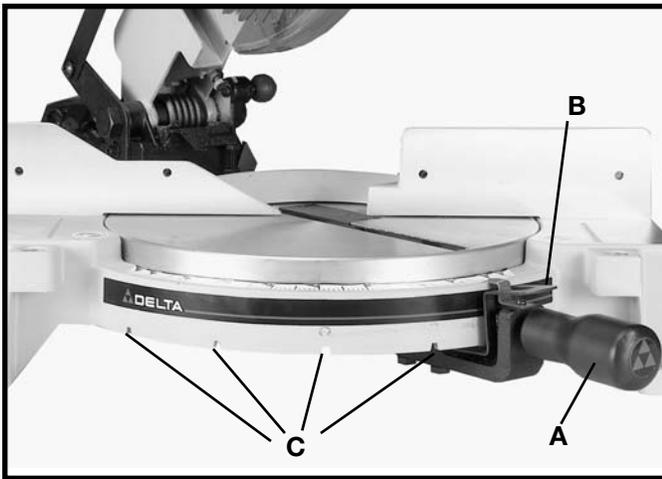

Fig. 15
Your miter saw will cut any angle from a straight 90 degree cut to 47 degrees right and left. Simply loosen lock handle (A) Fig. 15, depress index lever (B) and move the control arm to the desired angle. **THEN TIGHTEN LOCK HANDLE (A).**
The miter saw is equipped with positive stops at the 0, 22-1/2, and 45 degree right and left positions. Simply loosen lock handle (A) Fig. 15, and move the control arm until the bottom of the index lever (B) engages into one of the positive stops, four of which are shown at (C). **THEN TIGHTEN LOCK HANDLE (A).** To disengage the positive stop, depress index lever (B).